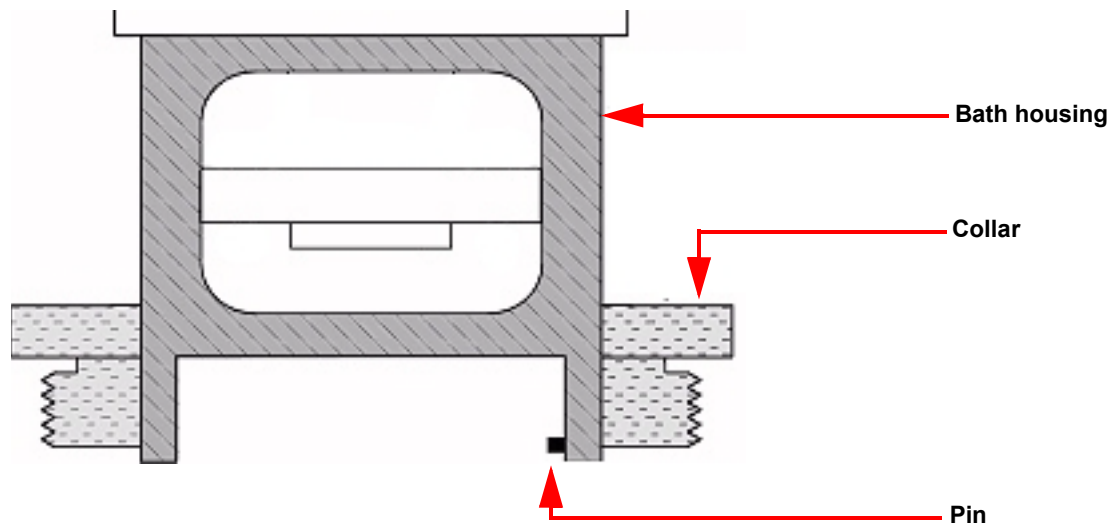

Figure 3 Fluid bath alignment pin configuration (cross section shown for visibility).
- c Seat the pin machined into the bottom of the fluid bath (see Figure 3) into the notch in the motor housing (the pin and notch should be located toward the rear of the instrument). It may be necessary to rotate the bath back and forth until the pin falls into the notch.
- 6 Insert the appropriate PRT into the bath, making sure to align the red dot on the PRT with the flat portion of the motor anvil. Refer to Figure 3 for correct orientation. Rotate the PRT until it drops securely into the bath housing.